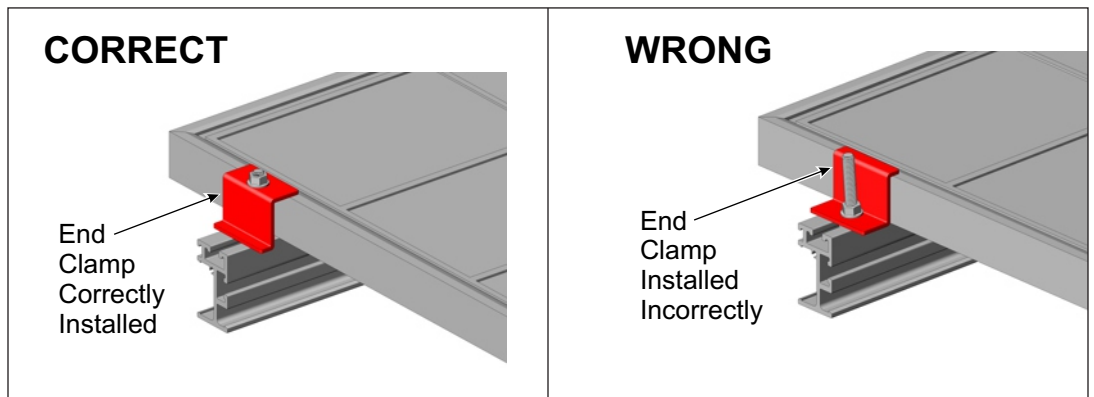
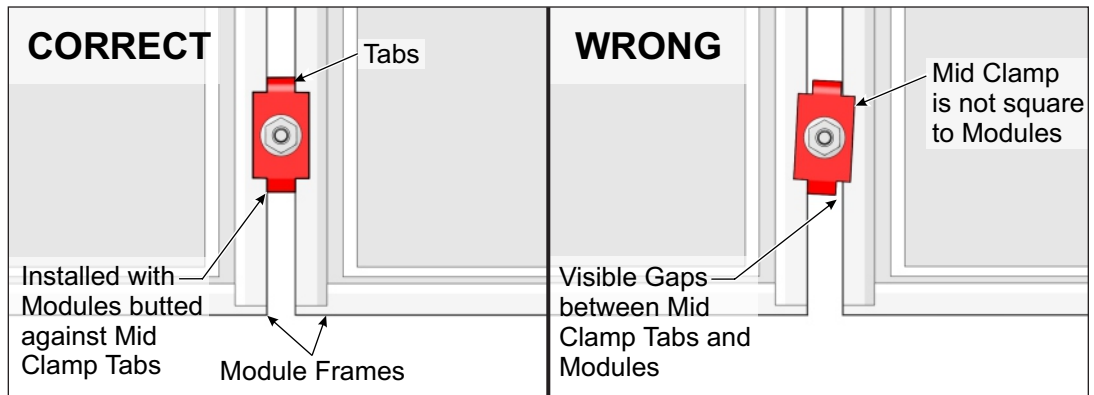

Figure 9-1: Correct and Wrong methods of installing Standard End-Clamp (using Carriage or RAD Bolts)
Figure 9-2: Correct and Wrong methods of installing a Mid Clamp (using Carriage or RAD Bolts)
There is only one correct method of installing End Clamps and Mid Clamps. Failure to follow the correct method could lead to personal injury, structural failure, and/or damaged components. See Figure 9-1 for proper method of installation for an End Clamp and Figure 9-2 for the Mid Clamp. Refer to these figures during the installation of the Modules to prevent any undue problems associated with an improper installation.
- B. Insert one 5/16" x 2, 2-1/4, 2-1/2 or 2-3/4" carriage bolt into the top slot of the Power Rail. Push the bolt against the side of the module frame. Install End Clamp onto bolt and secure with 5/16" flange nut. **Torque to 14-16 ft.-lbs.** (See Figures 9-1 and 9-3)
- E. Push Modules against Mid Clamp tabs and secure Mid Clamp with 5/16" flange nut. **Torque to 14-16 ft.-lbs.** (See Figures 9-2 and 9-5)
- B. Insert one 5/16" x 2, 2-1/4, 2-1/2 or 2-3/4" RAD bolt into the top slot of the Power Rail. Push the bolt against the side of the module frame and twist to lock in place. Install End Clamp onto bolt and secure with 5/16" flange nut. **Torque to 14-16 ft.-lbs.** (See Figures 9-1 and 9-6)
- F. Push Modules against Mid Clamp tabs and secure Mid Clamp with 5/16" flange nut. **Torque to 14-16 ft.-lbs.** (See Figures 9-2 and 9-7)